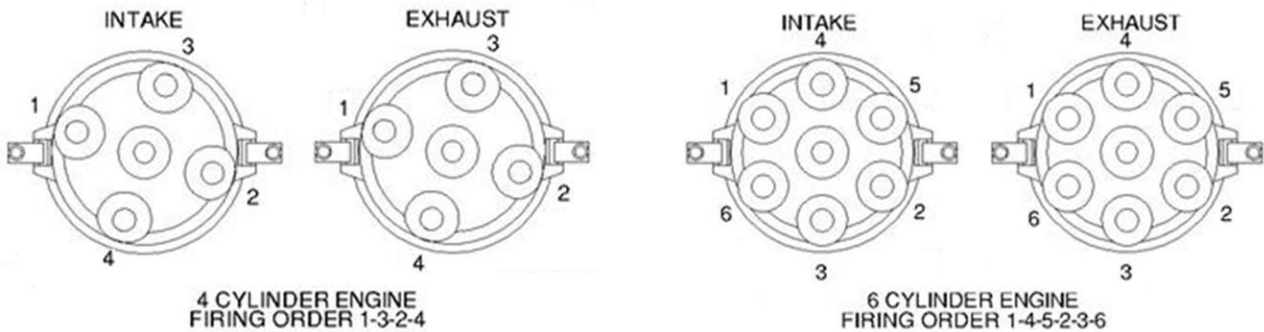

Figure 199 – Firing Order of Distributor Caps
- Note that in Figure 199 all distributors are shown looking from the flywheel end of the engine. “Exhaust” and “Intake” refer to the position of the spark plugs in the cylinder – on the exhaust or intake side of the head.